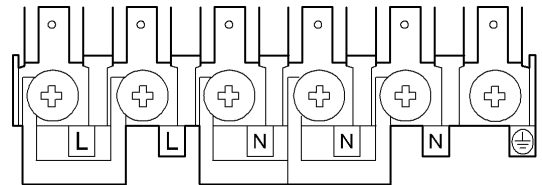

Fig.2.
- Make connection as shown in Fig 2 by proceeding as follows:-
- Clamp bare wires into the relevant terminal (Fig. 2) and check they are held by tugging each one in turn.